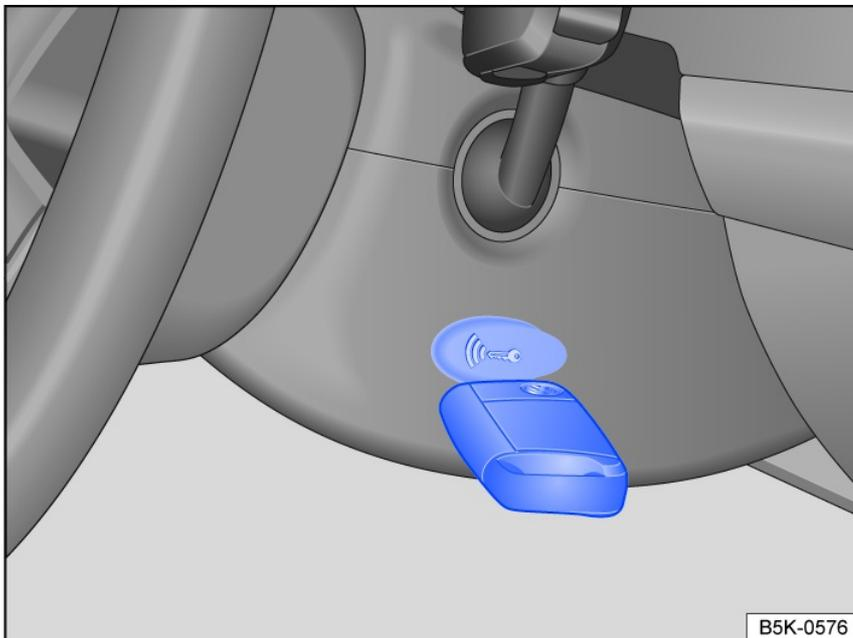

Fig. 116 On the right side of the steering column: emergency start function on vehicles with Keyless Access with push-button start.
- Hold the vehicle key on the right side of the steering column trim panel immediately after pressing the starter button *fig. 116*.